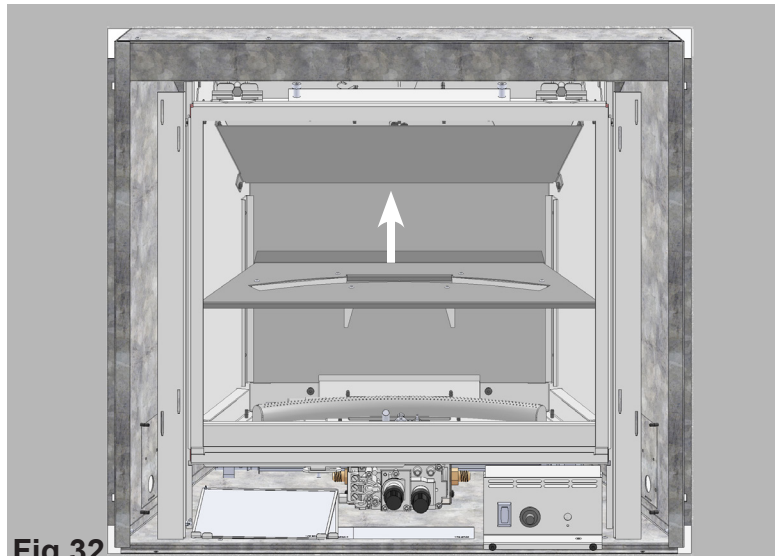

Fig.32
5. Remove the floor plate assembly and set aside. (**Fig.32**)